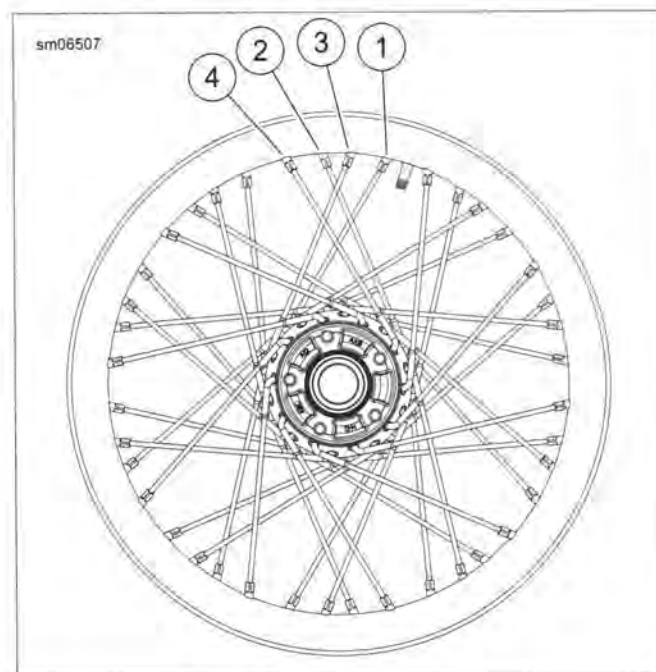

Figure 2-28. Center Valve Rim
- b. **Rim with center valve hole:** See Figure 2-28. Start at the first hole counterclockwise (1) from valve stem hole.
- a. Starting at the second hole counterclockwise (2) from first spoke installed, install inner spoke.
11. Starting at the first hole counterclockwise (3) from first spoke installed, install inner spoke. Install remaining inner spokes in every fourth hole.
13. Install outer spokes in remaining holes (4).